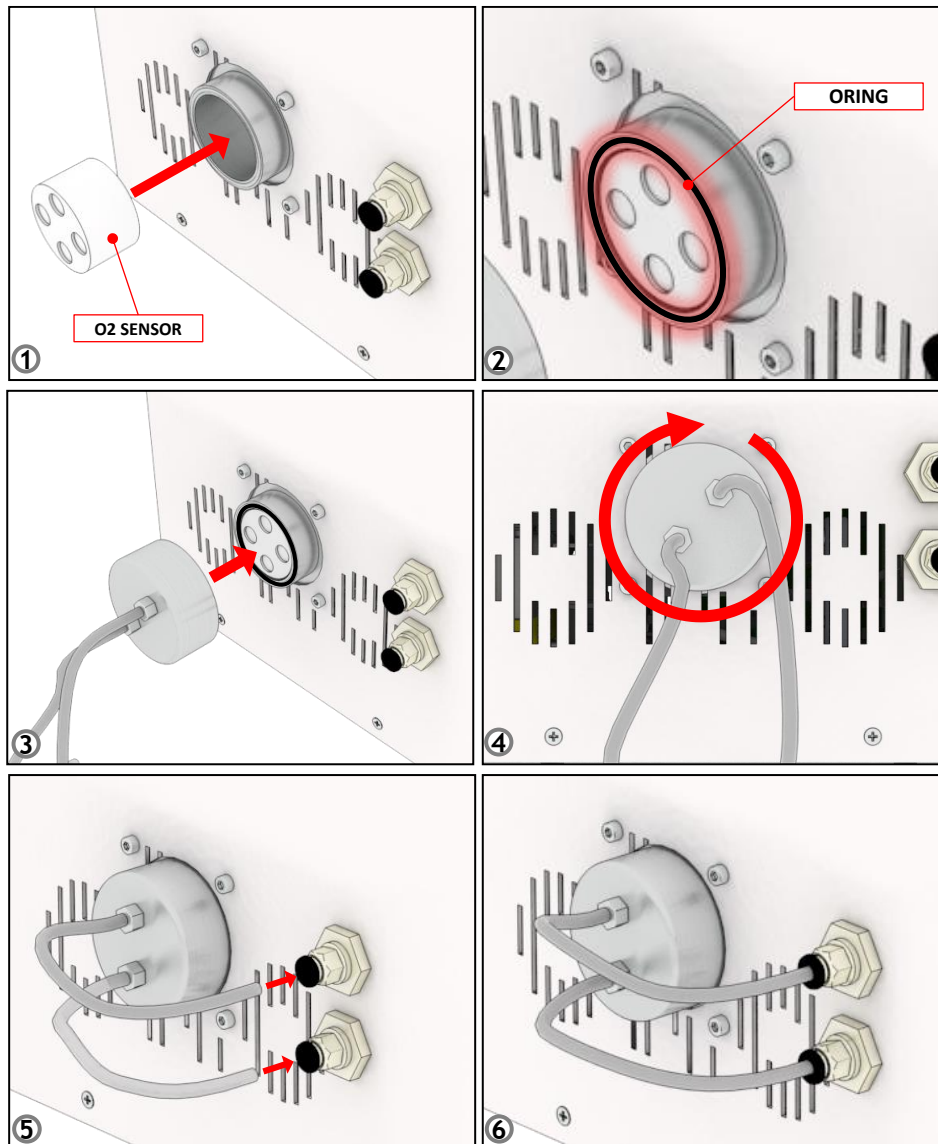

Figure 12. O2 Sensor installation.
- Slide the O₂-Sensor into the sensor unit (gold plated contact side of sensor should be facing up touching the sensor unit contacts. The membrane side is covered by a convex gold-plated mesh). Be careful not to touch the membrane while doing this - if the membrane is punctured the O₂ Sensor must be replaced (see image 1 in Figure 12)
- Verify that the sealing O ring is in place in the cell cap groove (see image 2 in Figure 12)
- Carefully place the cap and turn it clockwise. Make sure that you do not cross thread it, and tighten firmly by hand. Do not over-tighten (see image 4 in Figure 12).
- Connect the Oxygen Analyzer tubes are connected to the Oxygen Analyzer – Gas input connector and Oxygen Analyzer – Gas output connector (see image 5 in Figure 12). Make sure that the Oxygen analyzer tubes are securely connected.